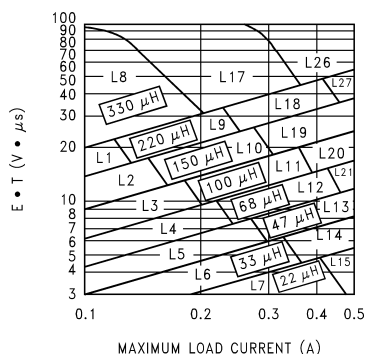

Figure 10. LM2597/LM2597HV-ADJ
2. Inductor Selection (L1) A. Calculate the inductor Volt microsecond constant $E \cdot T$ ($V \cdot \mu s$), from the following formula: $E \cdot T = (V_{IN} - V_{OUT} - V_{SAT}) \cdot \frac{V_{OUT} + V_D}{V_{IN} - V_{SAT} + V_D} \cdot \frac{1000}{150} (V \cdot \mu s) \quad (4)$ where V_{SAT} = internal switch saturation voltage = 0.9V and V_D = diode forward voltage drop = 0.5V B. Use the $E \cdot T$ value from the previous formula and match it with the $E \cdot T$ number on the vertical axis of the Inductor Value Selection Guide shown in Figure 10. C. on the horizontal axis, select the maximum load current. D. Identify the inductance region intersected by the $E \cdot T$ value and the Maximum Load Current value. Each region is identified by an inductance value and an inductor code (LXX). E. Select an appropriate inductor from the four manufacturer's part numbers listed in Table 3.	2. Inductor Selection (L1) A. Calculate the inductor Volt • microsecond constant ($E \cdot T$), $E \cdot T = (28 - 20 - 0.9) \cdot \frac{20 + 0.5}{28 - 0.9 + 0.5} \cdot \frac{1000}{150} (V \cdot \mu s)$ $E \cdot T = (7.1) \cdot \frac{20.5}{27.6} \cdot 6.67 (V \cdot \mu s) = 35.2 (V \cdot \mu s) \quad (5)$ B. $E \cdot T = 35.2 (V \cdot \mu s)$ C. $I_{LOAD(max)} = 0.5A$ D. From the inductor value selection guide shown in Figure 10, the inductance region intersected by the 35 ($V \cdot \mu s$) horizontal line and the 0.5A vertical line is 150 μH, and the inductor code is L19. E. From the table in Table 3, locate line L19, and select an inductor part number from the list of manufacturers part numbers.